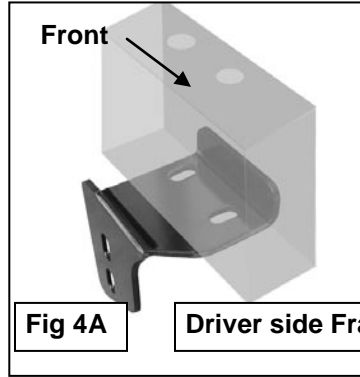

Fig 4A
- Remove the factory skip plate if equipped. Starting behind the front bumper on the driver side, locate the section of rectangular frame channel attached to the back of the bumper, (**Figure 1**). Insert (2) 10mm x 120mm Hex Bolts with (2) 10mm x 30mm Large Flat Washers into and down through the (2) vertical holes in the top of the bumper bracket, (**Figures 2 & 3**). Select the driver side Frame Mounting Bracket. Line up the (2) slots in the Bracket with the (2) 10mm Hex Bolts. Secure the Bracket to the bottom of the bumper bracket with (2) 10mm x 30mm Large Flat Washers and (2) 10mm Nylon Lock Nuts, (**Figures 4A & 4B**). Do not tighten hardware.